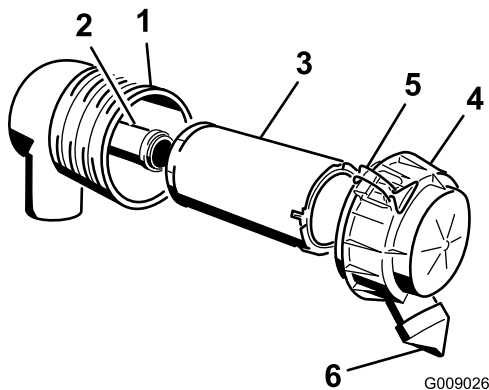

Figure 30
3. Release the latches on the air cleaner and pull the air cleaner cover off of the air cleaner body (Figure 30).
6. Gently slide the primary filter out of the air cleaner body (Figure 30). Avoid knocking the filter into the side of the body.
9. If you are replacing the safety filter, carefully slide the new filter into the filter body (Figure 30).
10. Carefully slide the primary filter over the safety filter (Figure 30). Ensure that it is fully seated by pushing on the outer rim of the filter while installing it.
11. Install the air cleaner cover with the side indicated as UP facing up and secure the latches (Figure 30).